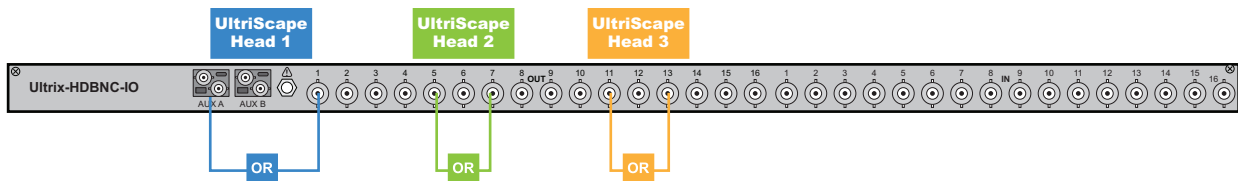

Figure 30 Example of Ultriscape Head Mapping on a Single ULTRIX-HDBNC-IO Blade
**Figure 30** illustrates the connections allocated for Ultriscape Heads on the ULTRIX-HDBNC-IO blade.